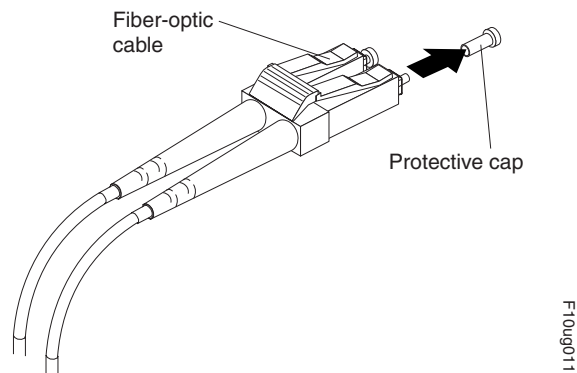

Figure 33. Removing fiber-optic cable protective caps
2. If necessary, remove the protective cap from the SFP module, as shown in Figure 33. Save the protective cap for future use.
3. Remove the two protective caps from one end of the LC-LC cable, as shown in Figure 33. Save the protective caps for future use.